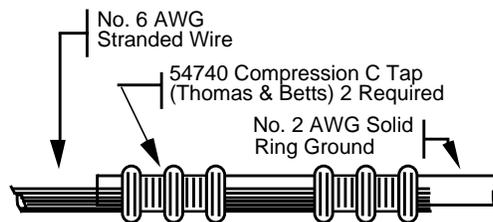

Figure 2-4. Grounding Connections
Step 1: All individual frames are provided with grounding wires. It will be necessary to terminate or crimp this bay ground wire to the ground wire (or ground ring) in the cable rack as shown in Figure 2-4.